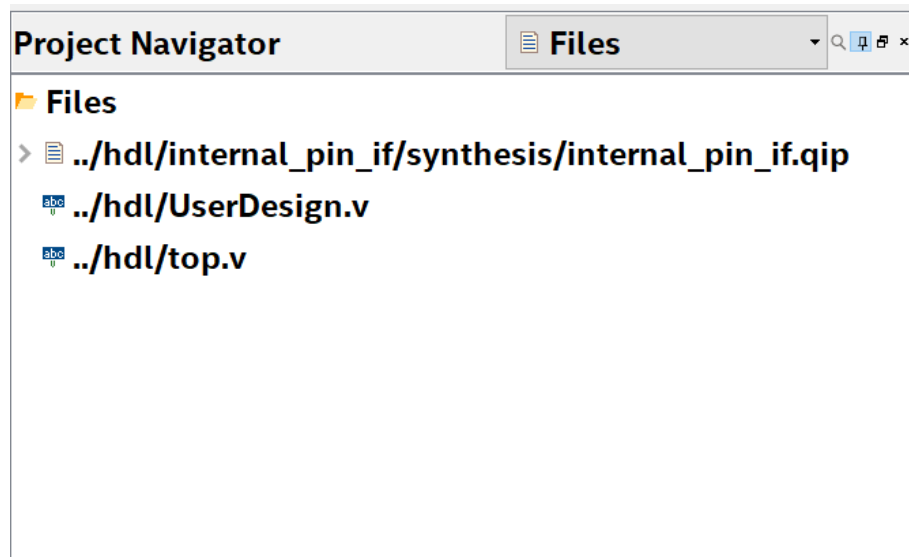

Figure 9: Project Navigator
- Make sure Project Navigator is showing Files. If not use the pull down to select Files as shown in Figure 9.